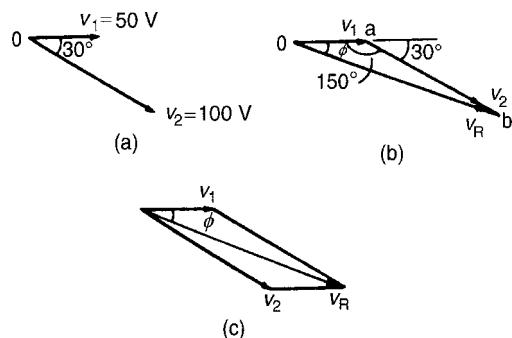

Figure 14.11
Phasors are usually drawn at the instant when time  $t = 0$ . Thus  $v_1$  is drawn horizontally 50 units long and  $v_2$  is drawn 100 units long lagging  $v_1$  by  $\pi/6$  rads, i.e.  $30^\circ$ . This is shown in Fig. 14.11(a) where 0 is the point of rotation of the phasors.
- Draw  $v_1$  horizontal 50 units long, i.e. oa of Fig. 14.11(b)
- Join  $v_2$  to the end of  $v_1$  at the appropriate angle, i.e. ab of Fig. 14.11(b)
Alternatively, when two phasors are being added the resultant is always the diagonal of the parallelogram, as shown in Fig. 14.11(c).
A more accurate solution is obtained by calculation, using the cosine and sine rules. Using the cosine rule on triangle Oab of Fig. 14.11(b) gives: